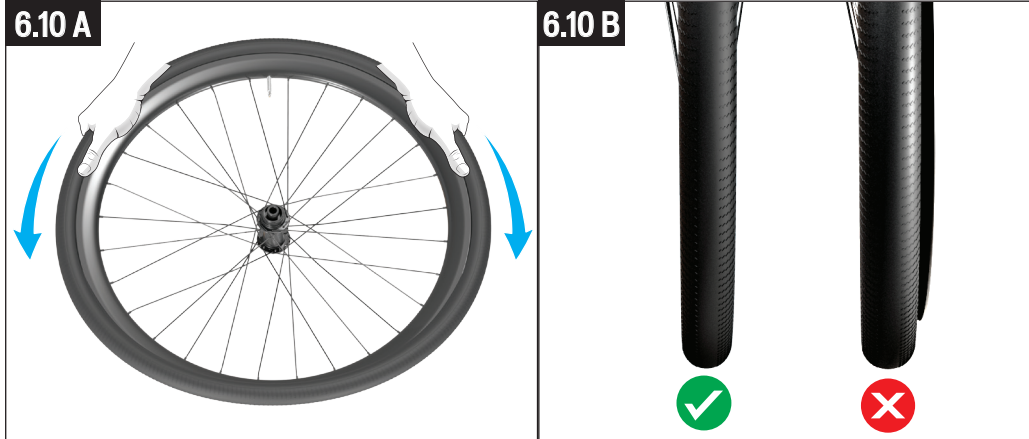

Fig. 6.10
2. Place the tire onto the bed of the rim and gradually work the tire around the circumference of the rim until it is fully seated on the rim (Fig. 6.10 A). Make sure the valve is straight in the valve hole. Otherwise, work the tire around the rim until the valve is straight in the valve hole.
4. Place the wheel in the truing stand and spin the wheel to make sure the tire is properly centered on the rim (Fig. 6.10 B).